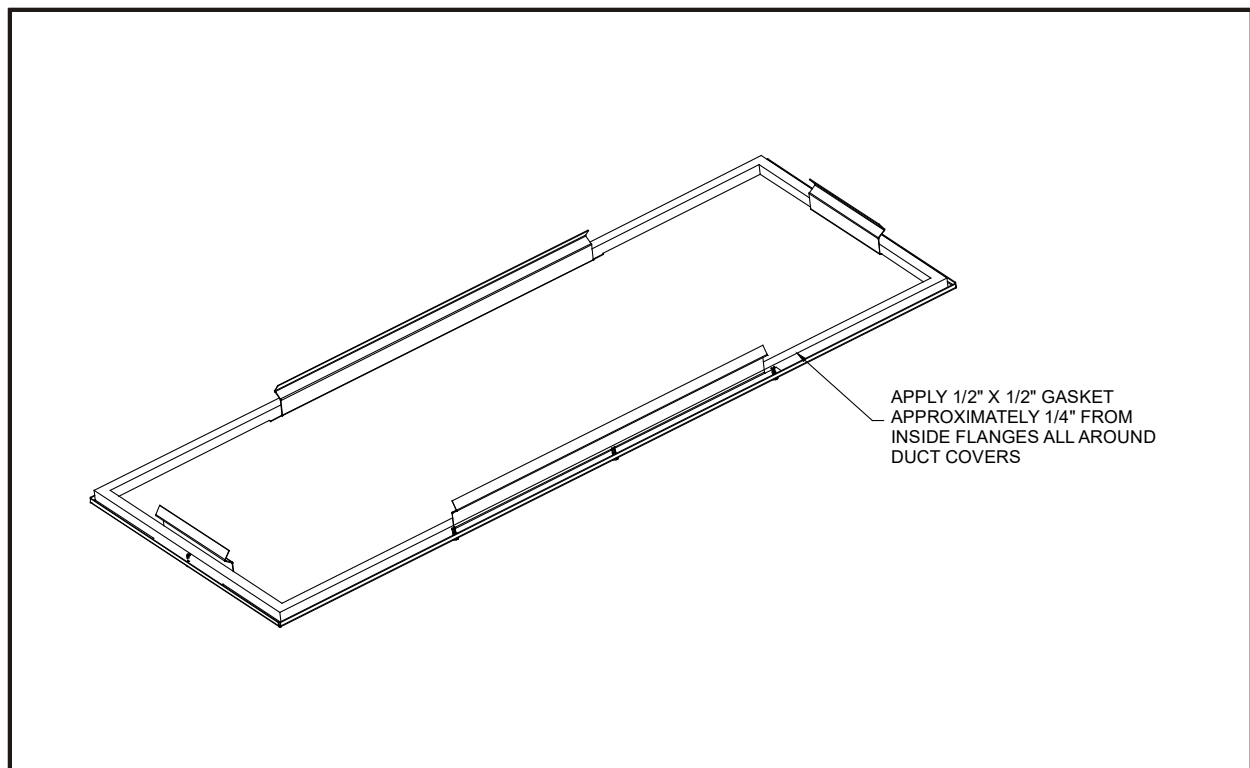

Figure 2
4. Place the provided gasket material completely around the perimeter of the clip side on both panels, as shown in Figure 2.